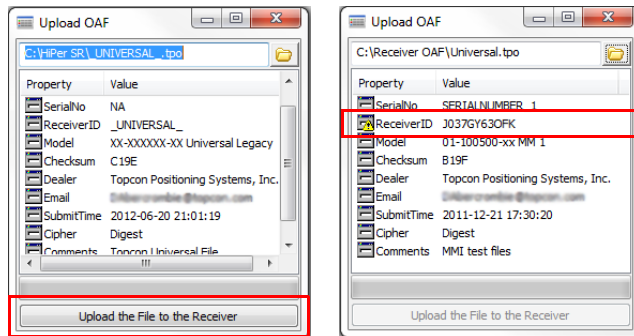

Figure 19: OAF Compatibility Check
- Press **Upload the File to the Receiver** (Figure 19) to start loading the file.